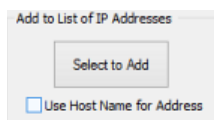

FIG. 136 Listen For Masters dialog - Master Selected
- Select the IP Address of the target Master and click **Select to Add** (FIG. 136).